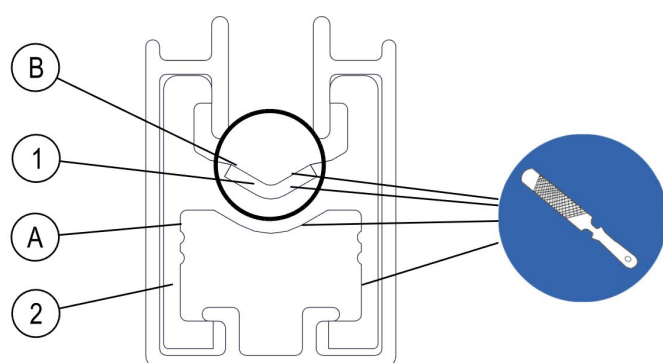

Fig. 17: Conductor Rail 0812
→ When cutting to length: Maintain cutting direction from top to bottom (see BAL0812-0001 and BAL0813-0007) to prevent the stainless steel strip from loosening (see item 2 in Fig. 17). After cutting to length, the outer and inner edges of the conductor bar must be deburred (1-2 mm 45°) to prevent wear of the sliding contact.